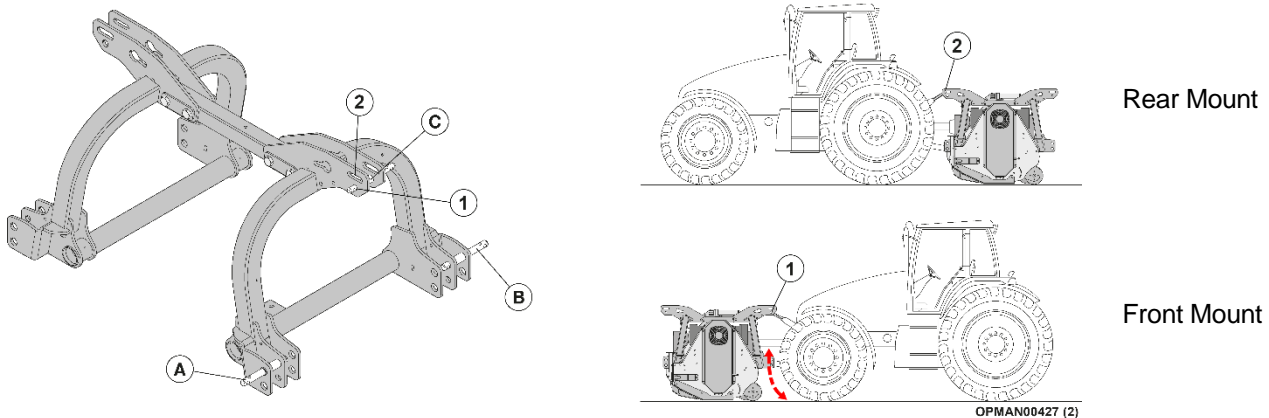

Figure 6
Proceed as follows for the coupling (see Figure 6):
- A fixed hole (ref Figure 6 (1)); which should be used for all transport purposes and front mount working purposes.
- A slotted hole (ref Figure 6 (2)); which should be used for rear mount working purposes.
The fixed hole (ref Figure 6 (1)) should be used during transport purposes when the machine is out of work and is required to be lifted off the ground. The fixed hole ensures the machine remains as stationary as and will not move when it's carried by the tractor off the ground.
The fixed hole (ref Figure 6 (1)) should be used when the machine is operating at work. It is important that the **front linkage of the carrying tractor is put into float** to allow the machine to follow ground contours, giving better operation and finish of the cut material.
The fixed hole (ref Figure 6 (1)) should be used during transport purposes, when the machine is out of work and is required to be lifted off the ground. The fixed hole ensures the machine remains as stationary as possible and will not move when its carried by the tractor off the ground.
The slotted hole (ref Figure 6 (2)) should be used when the machine is operating at work. The slotted hole allows the machine to follow ground contours more effectively, giving better operation and final finish of the cut material.